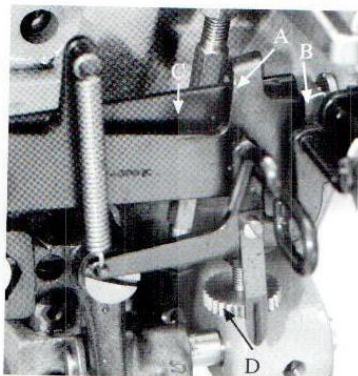
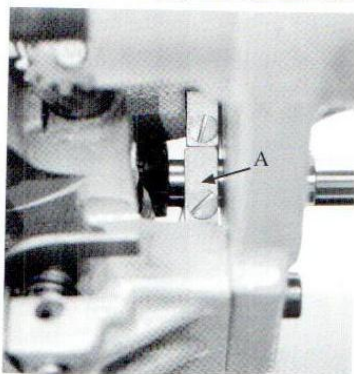
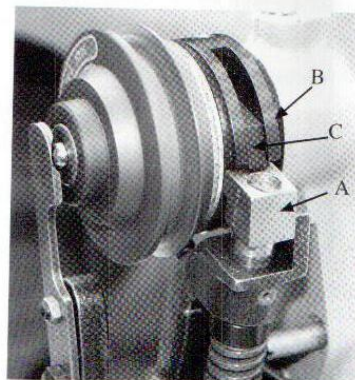

Fig. 15
Fig. 17
Fig. 16
The pull-off lever (A, Fig. 15) is set correctly when it snaps off the plunger (B) as the stop motion plunger (A, Fig. 16) comes to an abrupt stop against the stop motion disc(B) when operating machine by hand.
Check the pull-off lever plunger (B, Fig. 15) to be sure it operates freely. Looking down into the head of the machine under the front main shaft bearing, loosen the clamp screw in driving crank(A, Fig. 17), and manually raise the pull-off lever (A, Fig. 15) and plunger operating lever (C). Then, carefully lower the pull-off lever (A) until it just drops off the point of the plunger(B). Then,
carefully tighten clamp screw in driving crank(A, Fig. 17).
If too much thread tail shows on completed tack, turn pull-off lever control screw (D, Fig. 15) clockwise to reduce length of tail. If starting thread is too short, causing loss of stitches, turn the control screw counterclockwise until slight amount of tail shows.